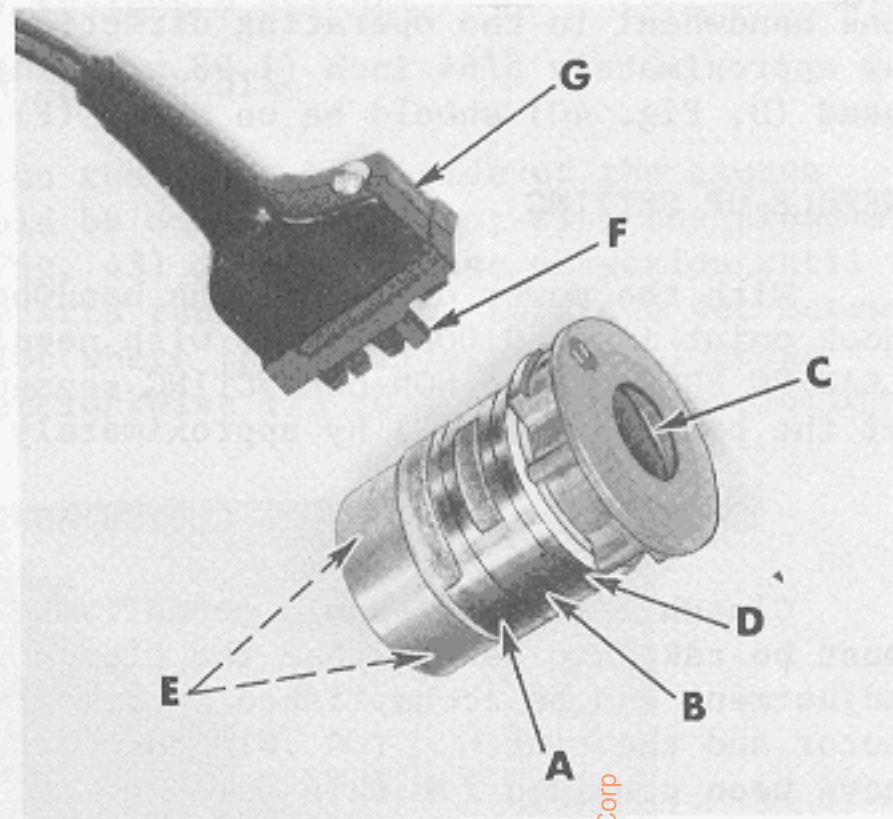
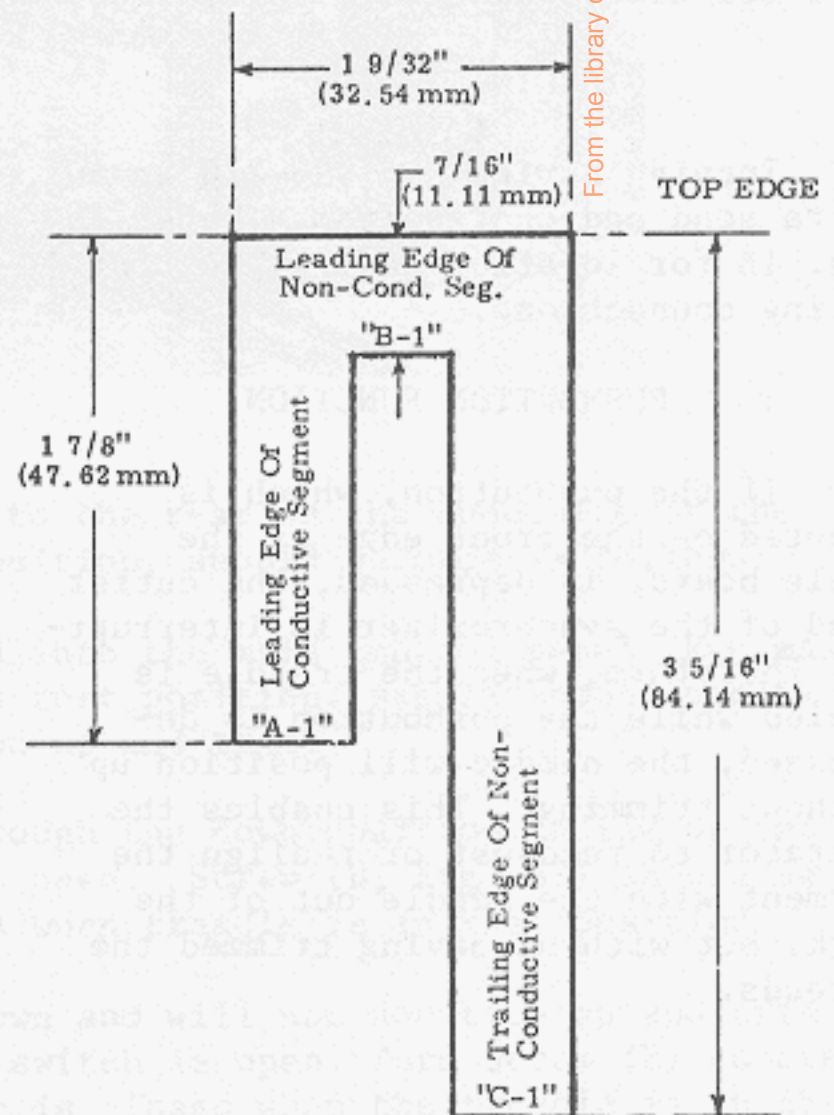

Fig. 40
Fig. 41
The synchronizer is composed of three slip rings and four carbon brushes. The hub, band (A, Fig. 40) is fixed on the synchronizer and controls the "cutting mechanism". Band (B) is adjustable by means of screw (C) and controls the "needle-up" position. Band (D) is also adjustable by means of screw (C) and controls the "needle-down" position.
Assemble the brush holder and bracket to the machine as shown in Fig. 1B and the synchronizer to the handwheel adapter. Do not tighten screws (E, Fig. 40) in the synchronizer hub, band (A) at this time. Loosen screw (C) so that bands (B and D) may be moved freely.
Figure 41 is provided to show dimensional relationships for setting the bands of the synchronizer. A plastic rule may be used for making these settings as compared to the sketch in Fig. 41. Visualize from the operator's position while seated at the machine, placing the top edge of sketch (Fig. 41) over the top of the bands until contact is made FLUSH with the edge of the brushes (NOT THE BRUSH HOLDER) and proceed as follows;
Rotate hub, band (A, Fig. 40) of the synchronizer in the operating direction until the LEADING EDGE of its CONDUCTING segment aligns with ("A-1", Fig. 41) 1 7/8 inches (47.62 mm). Secure the synchronizer to the handwheel adapter in this position by screws (E).
Rotate band (B, Fig. 40) in the operating direction until the LEADING EDGE of its NON-CONDUCTING segment aligns with ("B-1", Fig. 41) 7/16 inch (11.11 mm). WHILE HOLDING BAND (B) IN THIS POSITION, rotate band (D) in the operating direction until the TRAILING EDGE of its NON-CONDUCTING segment aligns with ("C-1", Fig. 41) 3 5/16 inches (84.14 mm).
With the power off, remove the throat plate and turn the handwheel in the operating direction until the needle has reached its lowest position; continue to turn the handwheel in the operating direction until the hook point has passed the needle by approximately 5/64 inch (1.98 mm). At this point, the NON-CONDUCTING segment of band (D, Fig. 40) should be on brush (F).